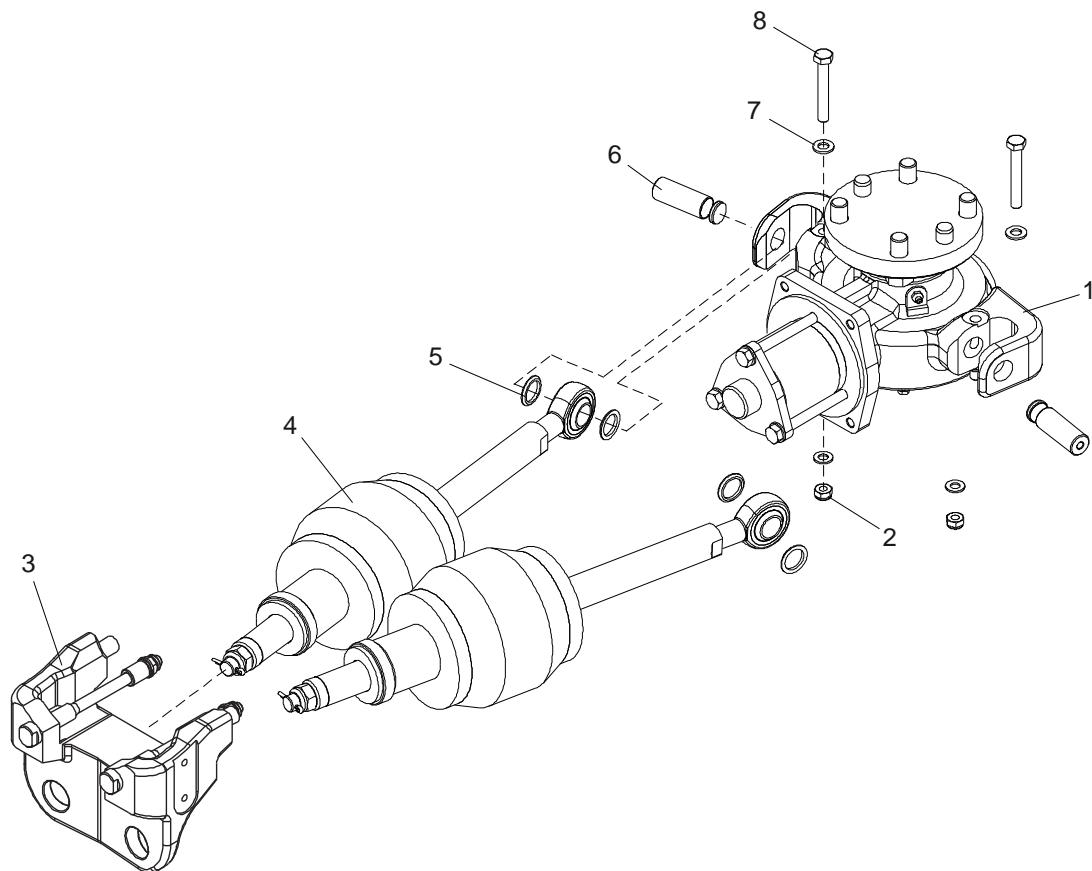

Figure 7-7: Replacement of Spring Assembly
1. Lift front of the coupler with a lifting strap or similar to unload the spring assemblies (4). See Figure 7-7.
2. Remove the screws (8), washers (7), nuts (2), pins (6) and spacers (5).
3. Remove the spring assemblies (4) from bracket complete (3).
2. Fit the spring assemblies (4) to the bracket complete (3) and centering house (1). See Figure 7-7.
3. Mount the spacers (5), pins (6), nuts (2), washers (7) and screws (8).